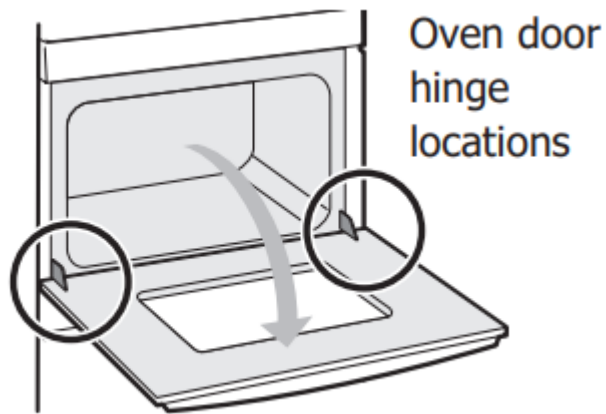

Figure 29: Door hinge location
1. Open oven door completely, horizontal with floor (Figure 29).